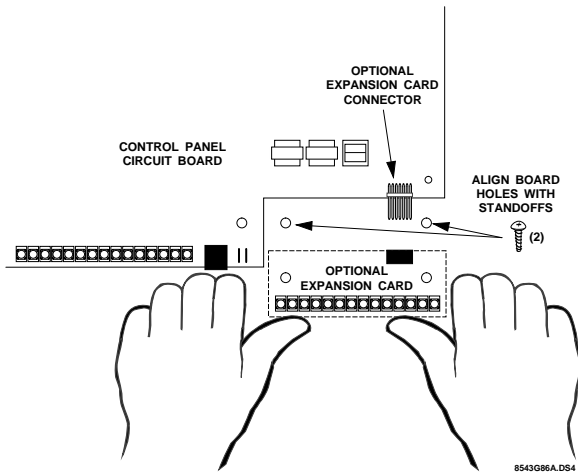

Figure 3. Installing the Card in Advent Panel and SuperBus 80Z Input/16 Output Module
1. Wire the input devices or smoke detectors as shown in figure 3.